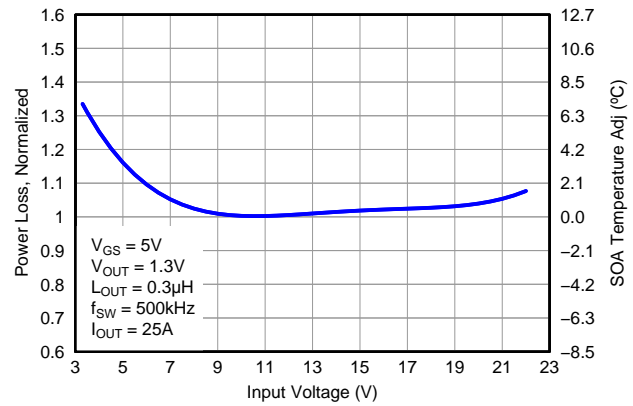

Figure 7. Normalized Power Loss vs Input Voltage
- Normalized power loss for input voltage ≈ 1.05 (Figure 7)
- SOA adjustment for input voltage $\approx 1.05^\circ\text{C}$ (Figure 7)